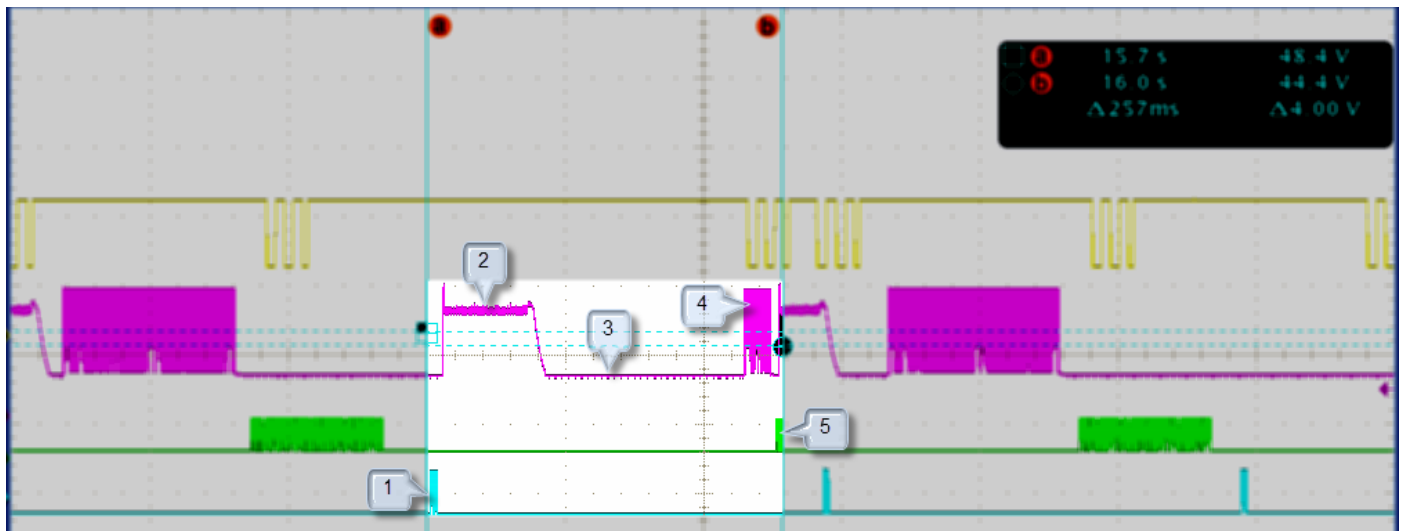

Figure 4-13 - Batched INC Amplitude during Real Time
In the example shown in Figure 4-13 - Batched INC Amplitude during Real Time, (1) a command was sent from the Host to increment the amplitude 5 steps 4 times. (2) A batch of 4 commands to increment amplitude 5 steps is sent to the Activa PC+S. (3) The Activa PC+S executes each of the 4 commands. (4) The new Amplitude value is sent from the Activa PC+S to the Nexus-D System. (4) The new value is sent from the Nexus-D System to the Host. Notice that the downlink time and wait for telemetry response is greater than 250ms; while busy executing the command the INS delayed getting the real-time data and the Nexus-D System was delayed in requesting the real time data because it was waiting for the INC command response.